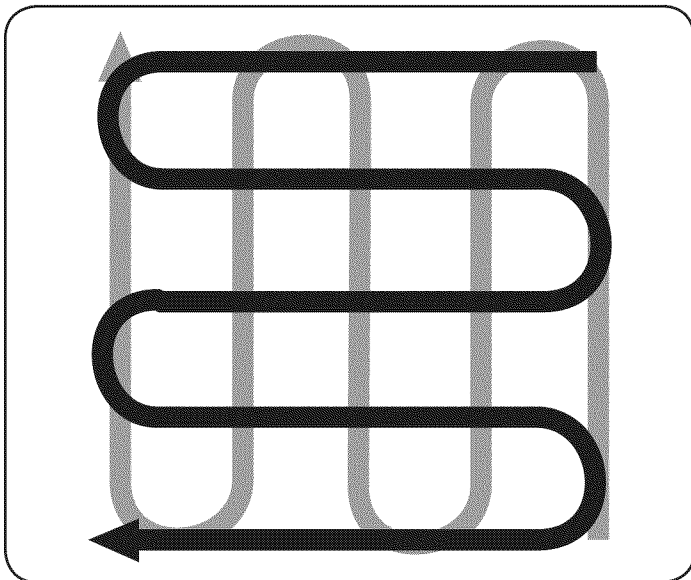

Figure 19
- When finished in one direction, make a second pass at a right angle. See Figure 19. Overlap each pass for the best results (in very hard ground, it may take three or four passes to thoroughly pulverize the soil.)